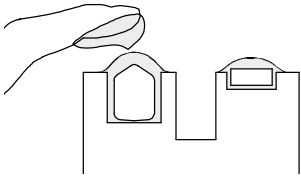

Fig. 7 Piston seal
- Rub grease into the seal groove and outer circumference of the seal. (Fig. 7)